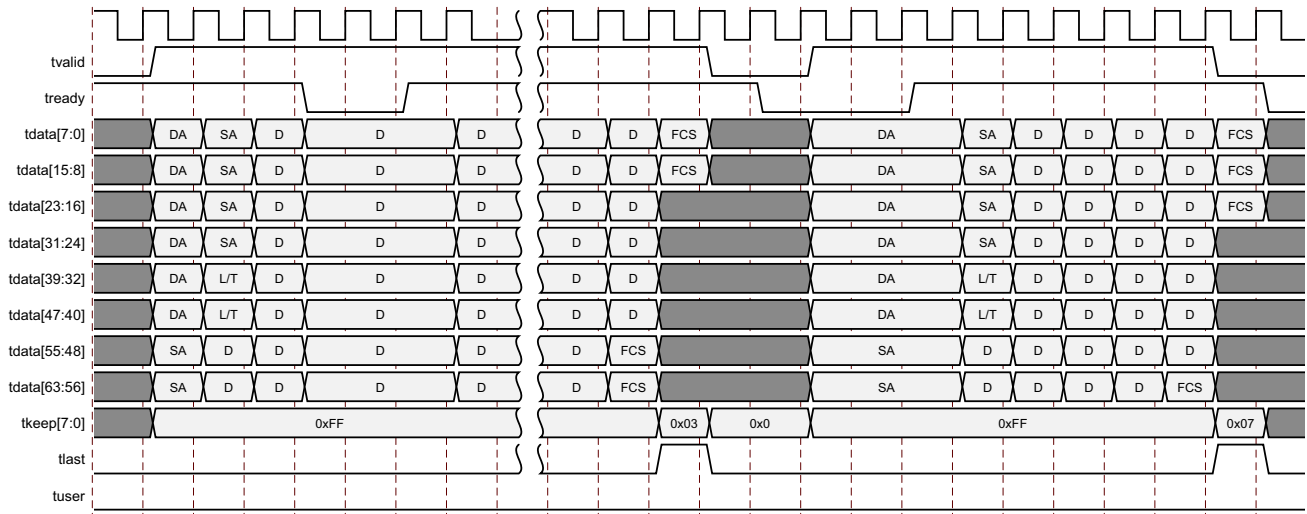

Figure 2-13: Normal Frame Transfer – 64-bits
The timing of a normal frame transfer is shown in Figure 2-13. When the client wants to transmit a frame, it asserts the `tx_axis_tvalid` and places the data and control in `tx_axis_tdata` and `tx_axis_tkeep` in the same clock cycle. When this data is accepted by the core, indicated by `tx_axis_tready` being asserted, the client must provide the next cycle of data. If `tx_axis_tready` is not asserted by the core, the client must hold the current valid data value until it is. The end of the packet is indicated to the core by `tx_axis_tlast` asserted for 1 cycle. The bits of `tx_axis_tkeep` are set appropriately to indicate the number of valid bytes in the final data transfer. `tx_axis_tuser` is also asserted to indicate a bad packet. After `tx_axis_tlast` is deasserted, any data and control is deemed invalid until `tx_axis_tvalid` is next asserted.
- An explicit error in which a frame transfer is aborted by deasserting tx_axis_tuser High while tx_axis_tlast is High. [see Figure 2-13]